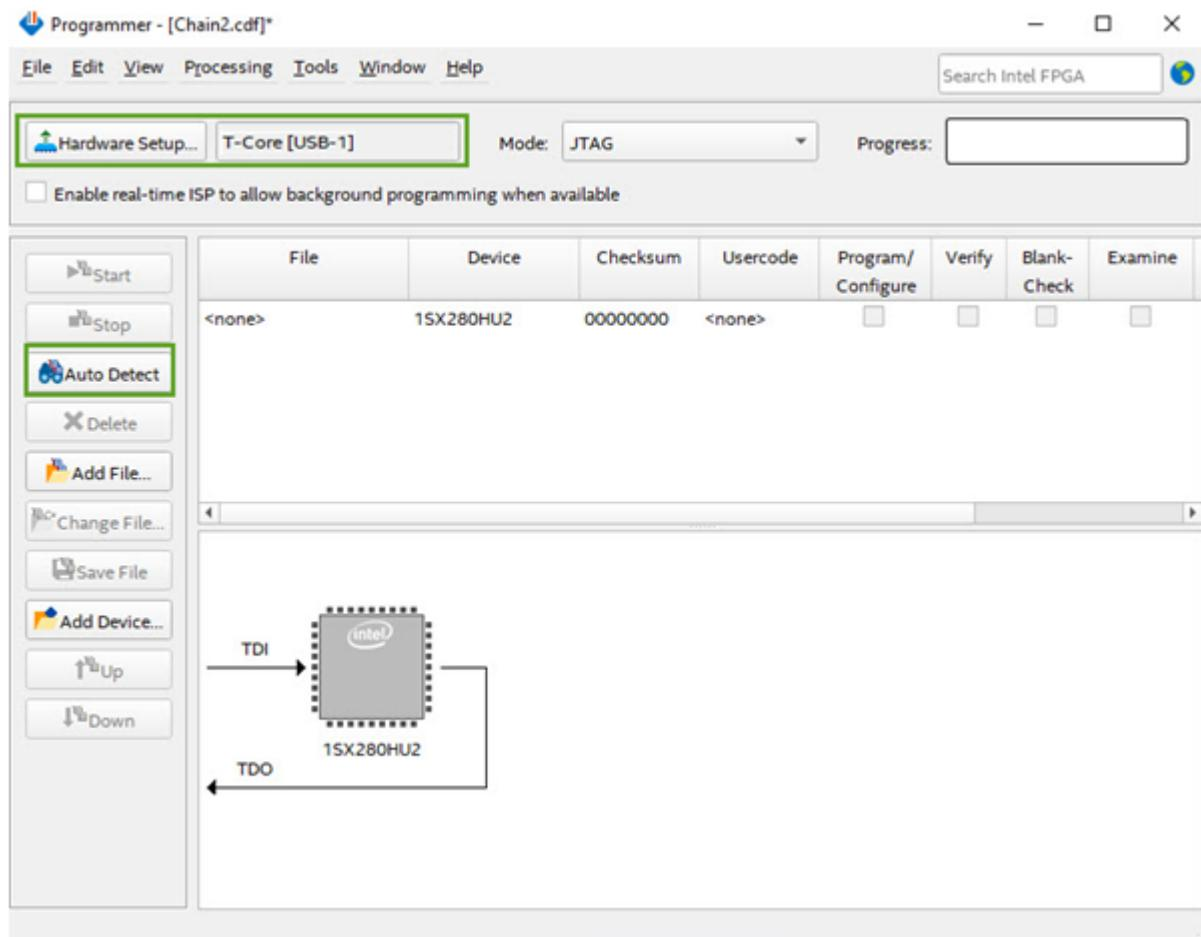

Figure 5-6 Using T-Core board to program the DE10-Pro
5. Open the Quartus programmer on the host PC, press "Hardware Setup" and select T-Core [USB-*]. Then press "Auto Detect" and the Stratix 10 FPGA device on the DE10-Pro will appear in the window, as shown in **Figure 5-6**.